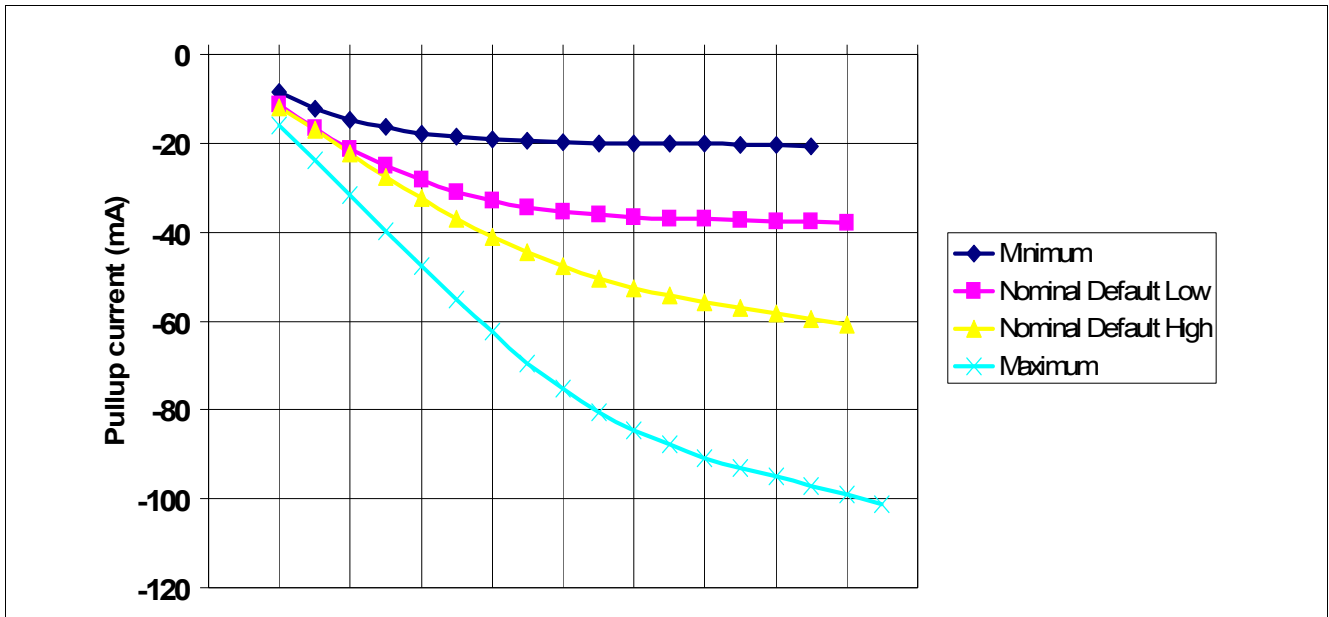
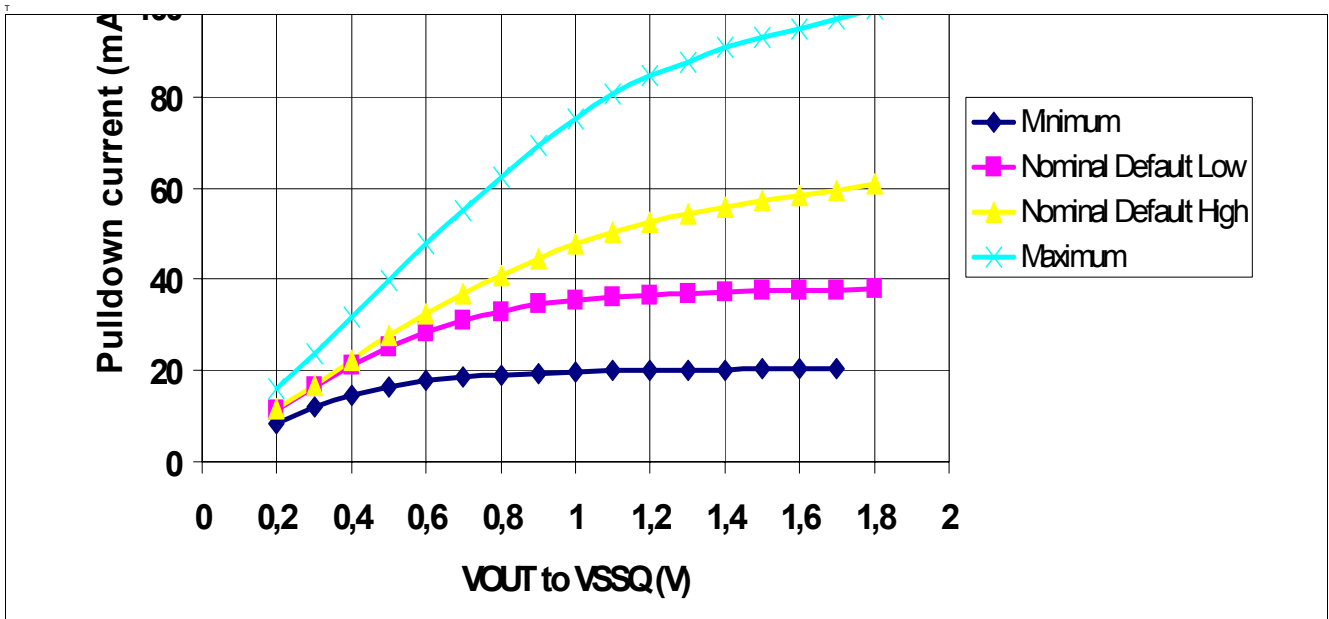

Figure 63 Full Strength Default Pull-up Driver Diagram
Figure 64 Full Strength Default Pull-down Driver Diagram
DDR2 SDRAM output driver characteristics are defined for full strength default operation as selected by the EMRS(1) bits A[9:7] = '111'. Figure 63 and Figure 64 show the driver characteristics graphically and the tables show the same data suitable for input into simulation tools.